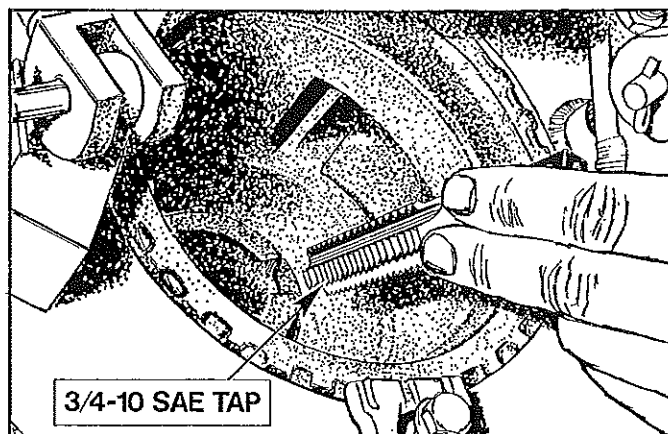

Figure 8. Clean Hole with Tap.
- e. Clean out hole in center of motor shaft with a 3/4-10 SAE tap and blow out metal shavings with compressed air. (FIG. 8). **CAUTION: To avoid serious equipment damage the internal threads must be clean and free of all dirt and abrasive.**